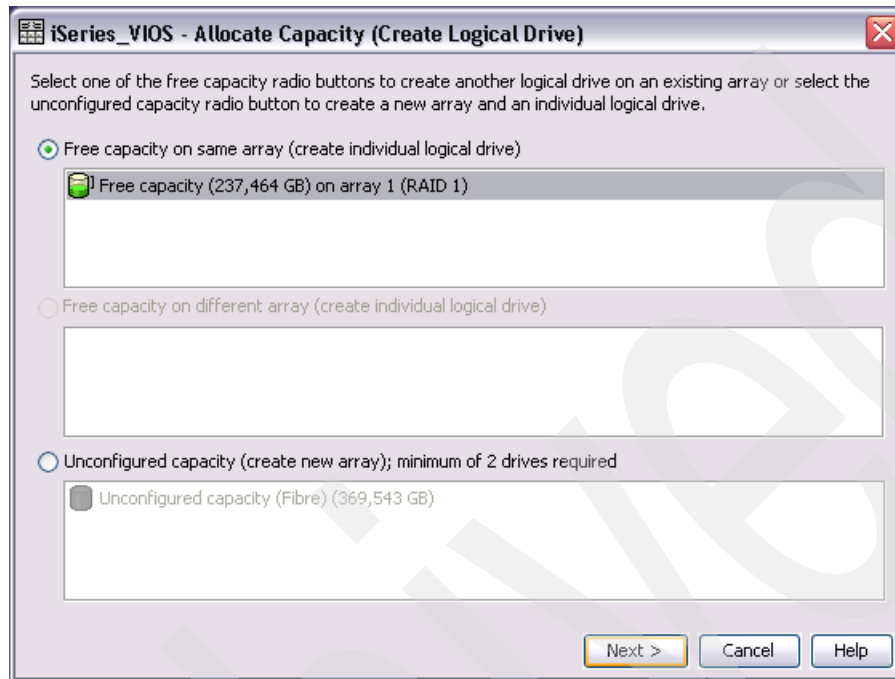

Figure 7-59 DS Storage Manager Allocate Capacity dialog
11. We choose **Free capacity on the same array (create individual logical drive)** and click **Next**, as shown in Figure 7-59, to continue creating logical volumes on our RAID-10 array following the same steps 7 to 10 that we did before for the previous logical drive that we created.